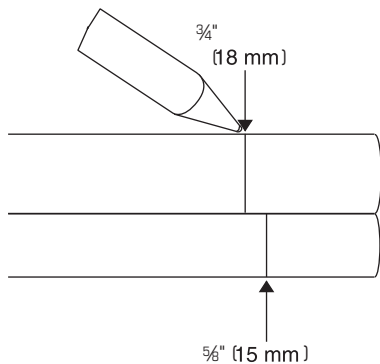

Fig. 19
1. a) **Lay** the RED and GREEN tubes on the top of the diagram, and lay the BLUE tube on the bottom. Use a pen to **mark** them at the arrows (Fig. 19).
- b) Use a ruler or **lay** the tube from the cold water supply on the top of the diagram and **mark** a line at $\frac{3}{4}$ " (18mm) or at the arrow (Fig. 19).